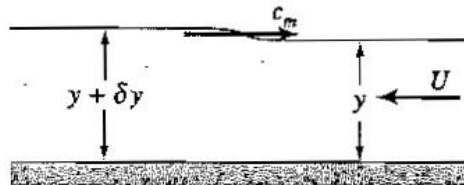

Figure P10.4
10.4 Consider a small amplitude gravity wave moving at a speed c_m from left to right into a shallow basin of depth y , as shown in Figure P10.4. The water in this basin is moving from right to left at speed U .